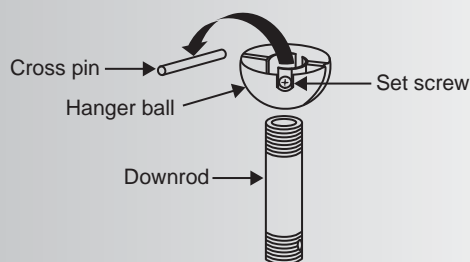

Fig. 10
Step 5. Remove the hanger ball from the downrod assembly by loosening the set screw, removing the cross pin and sliding the ball off the rod. (Fig. 10)